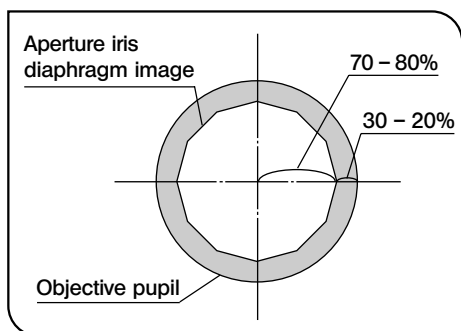

Fig. 30
2 Aperture Iris Diaphragm (Fig. 30)
- To confirm the aperture iris diaphragm, remove the eyepiece when necessary (and insert the CT-5 if you have one). Then look into the eyepiece sleeve; you will see the field of view as shown in Fig. 30. Now adjust the aperture iris diaphragm lever as required.